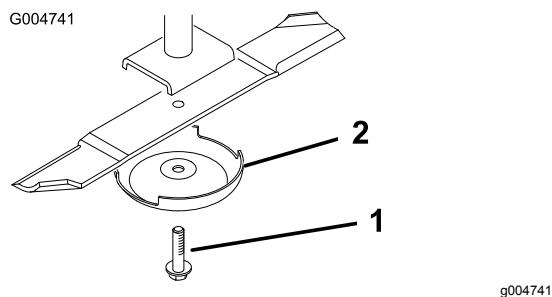

Figure 112
3. Remove the blade bolt, anti-scalp cup, and blade from the spindle shaft (Figure 112).